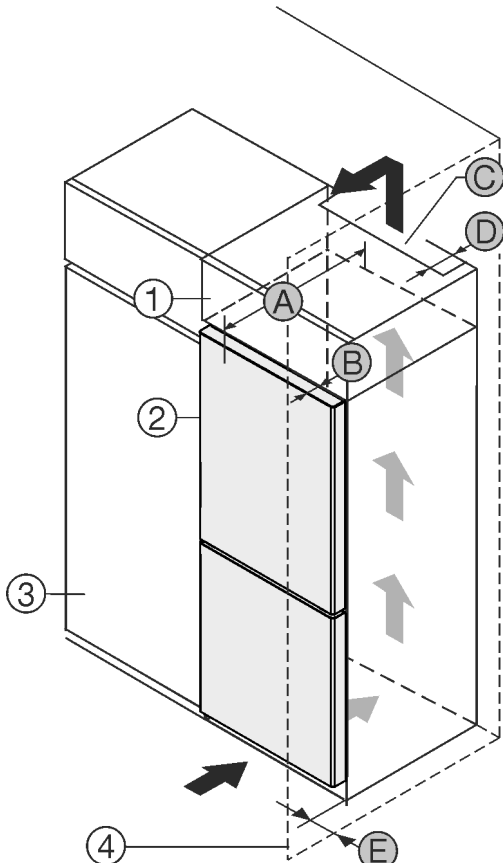

Fig. 1
Set up the appliance directly next to the kitchen cabinet Fig. 1 (3).\*
At the back of the top cabinet, there must be an air outlet shaft with the depth Fig. 1 (D), spanning the entire width of the cabinet.
The ventilation cross-section Fig. 1 (C) must be maintained under the ceiling.
If the appliance is set up with the hinges next to a wall Fig. 1 (4), the distance between the appliance and the wall must be at least 40 mm. This is how far the handle protrudes when the door is open.
The appliance must protrude by the depth of the door Fig. 1 (B) from the front of the cabinet so that the doors can be opened fully. The appliance may protrude further depending on the depth of the kitchen cabinets Fig. 1 (3) and whether wall spacers are used.\*
The appliance must protrude by the depth of the door (B) from the front of the cabinet so that the doors can be opened fully. The appliance may protrude further depending on the depth of the kitchen cabinets Fig. 1 (3) and whether wall spacers are used.\*